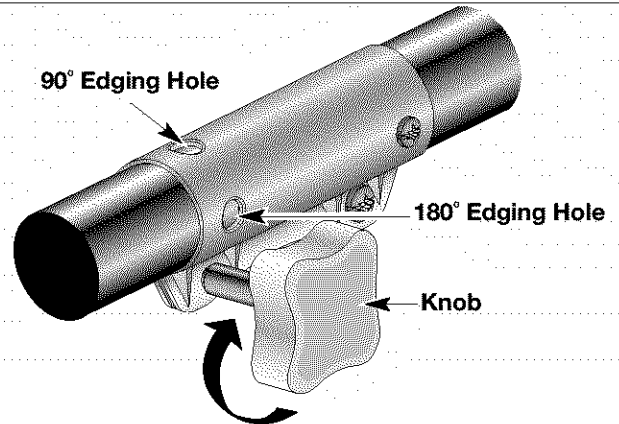

Fig. 6
3. Turn the knob clockwise to tighten (Fig. 6).
NOTE: For edging with Click-Link® models, lock the release button of the cutting attachment into the 90° edging hole or the 180° edging hole (Fig. 6).